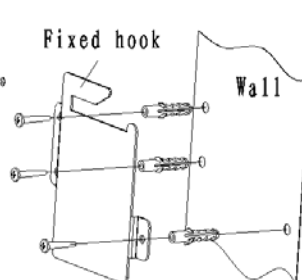

Figure N.2.4
- 4) Select the location for mounting the printer with wall mount systems, It needs at least 15 cm free space to the right of the location. Drill three Ø 8 mm holes in the wall using the Fixed-Hook-Plate as a template. Insert three plastic plugs (Ø 8 mm x 40 mm) in these holes and make sure that the plugs are completely inserted in the holes. Mount the Fixed-Hook-Plate onto the wall with three screws (Ø 4.8 mm x 30 mm) as shown in figure N.2.4. Please note that these screws and plastic plugs are not supplied with the Wall mount system.